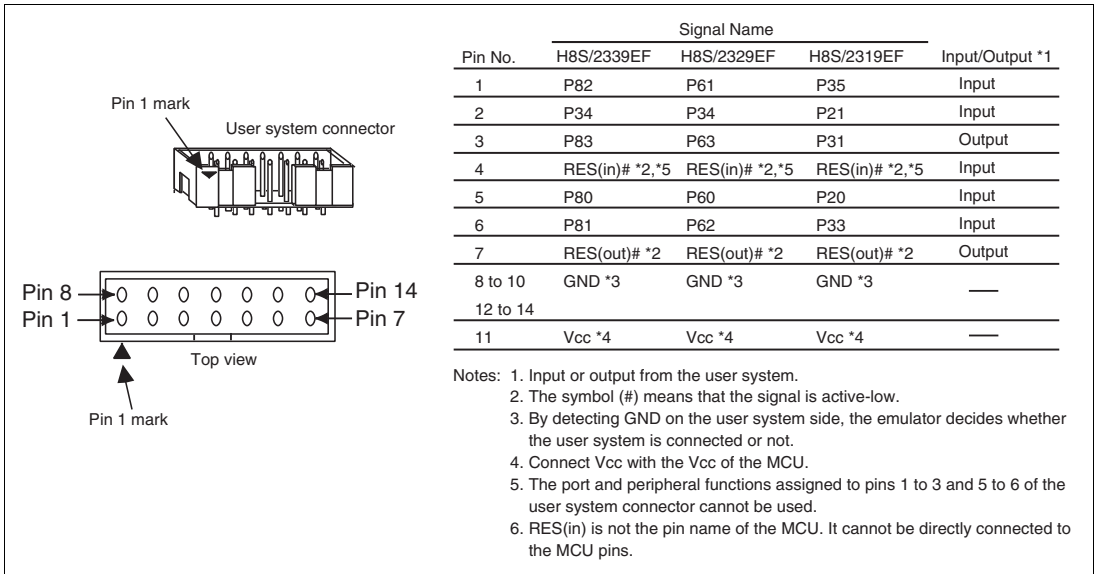

Figure 1.2 Pin Assignments of the User System Connector
Figure 1.2 shows the pin assignments of the user system connector.
4. The emulator communicates with the MCU by using the pins shown in figure 1.2 (section 1.3).